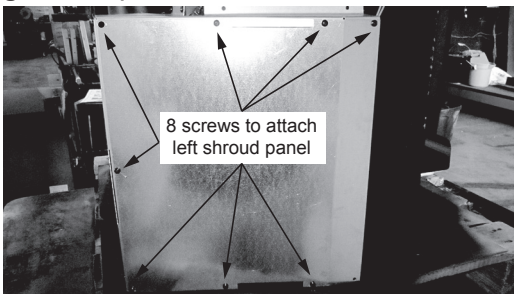

Figure 21.4
7. Attach the left shroud panel using eight screws (**Figure 21.4**).